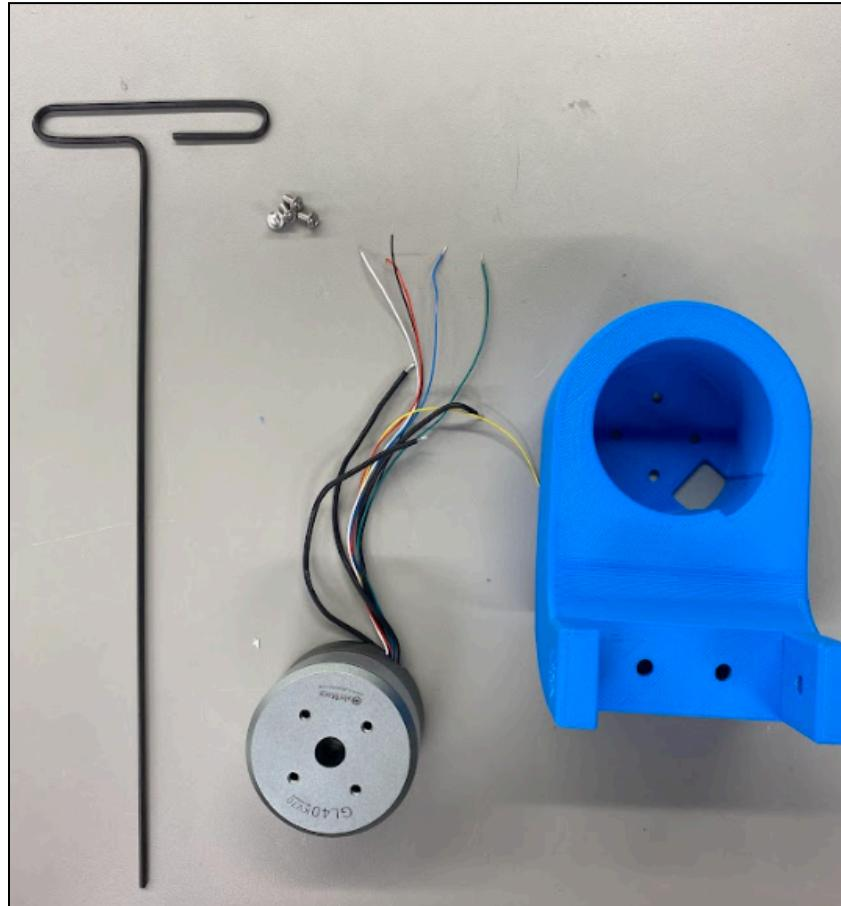

Figure 46: J5 Motor to J5 Motor Holder
- Prepare J5 Motor, J5 Motor Holder, 4 M3x 5 mm screws, and a long M3 allen wrench. See Figure 46 below.